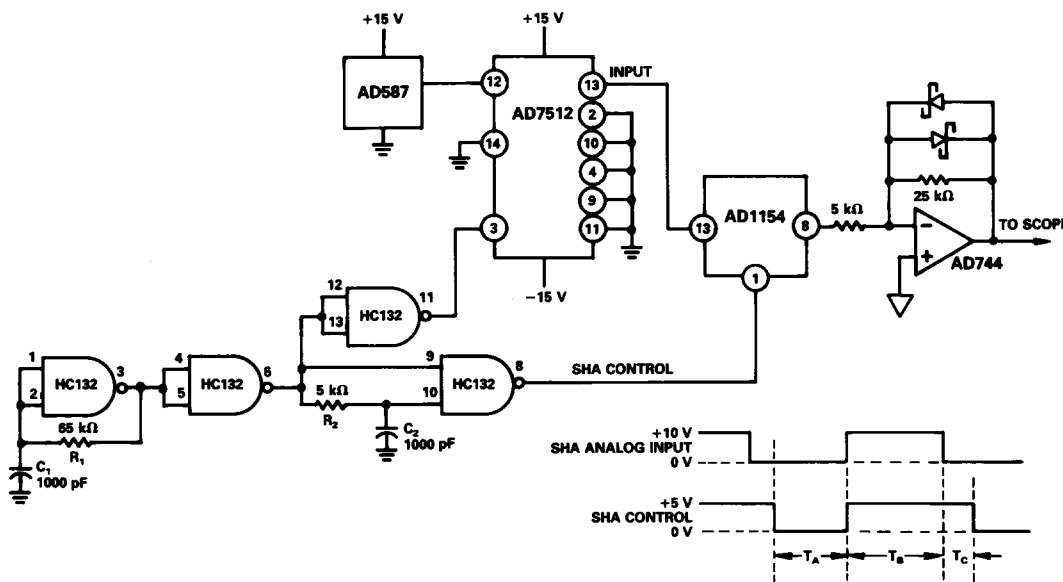

Figure 10. Dielectric Absorption Measurement Circuit
Figure 10 shows a circuit suitable for measuring the dielectric absorption of sample/hold amplifiers. The circuit operates as follows: R_1 and C_1 set the frequency of the SHA control; R_2 and C_2 set the amount of acquisition time allowed for the SHA. See the timing diagram of Figure 10.
1. Adjust the D.A. measurement circuit (see Figure 10) to represent a typical sampling rate.